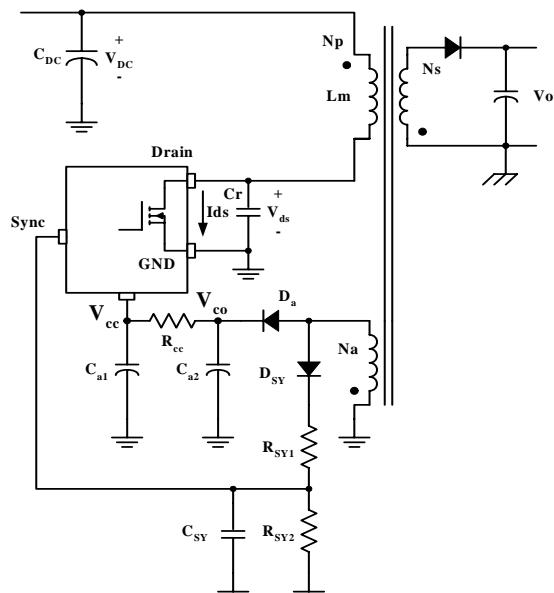
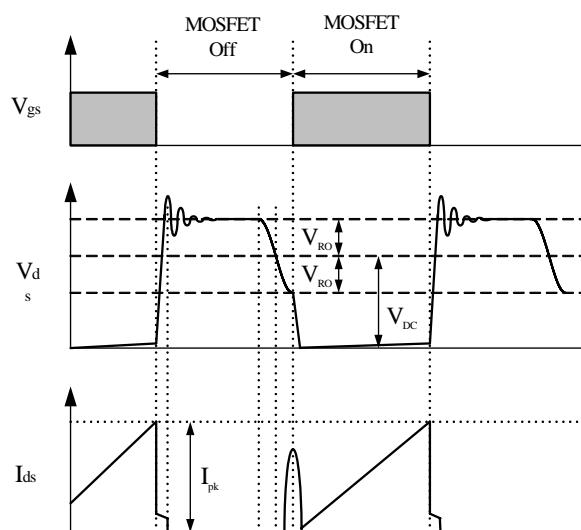
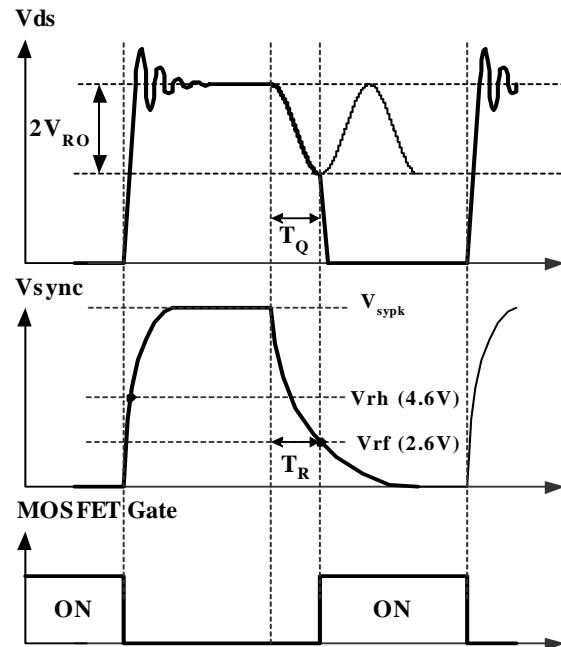

Figure 6. Synchronization Circuit
Figure 7. Quasi-resonant Operation Waveforms
Figure 8. Normal Quasi-Resonant Operation Waveforms
**2. Synchronization:** The FSCQ-Series employs a quasi-resonant switching technique to minimize the switching noise and loss. In this technique, a capacitor ( $C_r$ ) is added between the MOSFET drain and the source as shown in Figure 6. The basic waveforms of the quasi-resonant converter are shown in Figure 7. The external capacitor lowers the rising slope of the drain voltage to reduce the EMI caused when the MOSFET turns off. To minimize the MOSFET's switching loss, the MOSFET should be turned on when the drain voltage reaches its minimum value as shown in Figure 7.
The minimum drain voltage is indirectly detected by monitoring the Vcc winding voltage as shown in Figure 6 and 8. Choose voltage dividers,  $R_{SY1}$  and  $R_{SY2}$ , so that the peak voltage of the sync signal ( $V_{syph}$ ) is lower than the OVP voltage (12V) to avoid triggering OVP in normal operation. It is typical to set  $V_{syph}$  to be lower than OVP voltage by 3-4 V. To detect the optimum time to turn on MOSFET, the sync capacitor ( $C_{SY}$ ) should be determined so that  $T_R$  is the same with  $T_Q$  as shown in Figure 8. The  $T_R$  and  $T_Q$  are given as, respectively